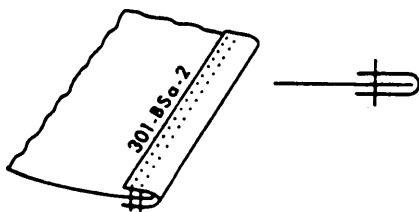

Figure 10-35.—Bound seam.
**Class BS, Bound Seams.**—BSa-2 seams are made by folding binding strips or tapes over the edges of the material to reinforce and finish the edges. Use the BSa-2 seam, as shown in figure 10-35, to bind the edges of tool aprons, reinforcement panels etc. Most soundproofing is bound with 3/4-inch tape using the BSa-2 seam.